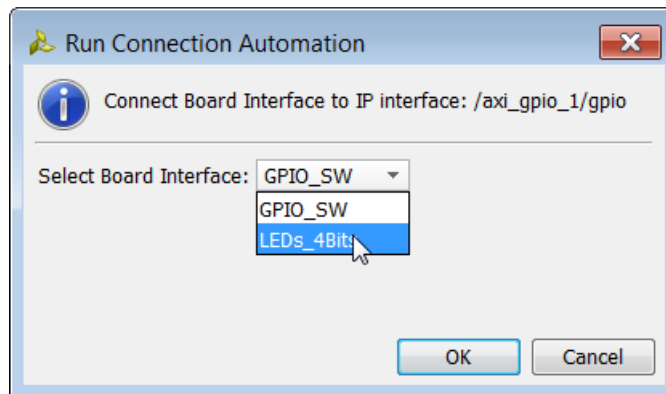

Figure 16: Select Board Interface Options
5. Select **LEDs_4Bits** (Figure 16).